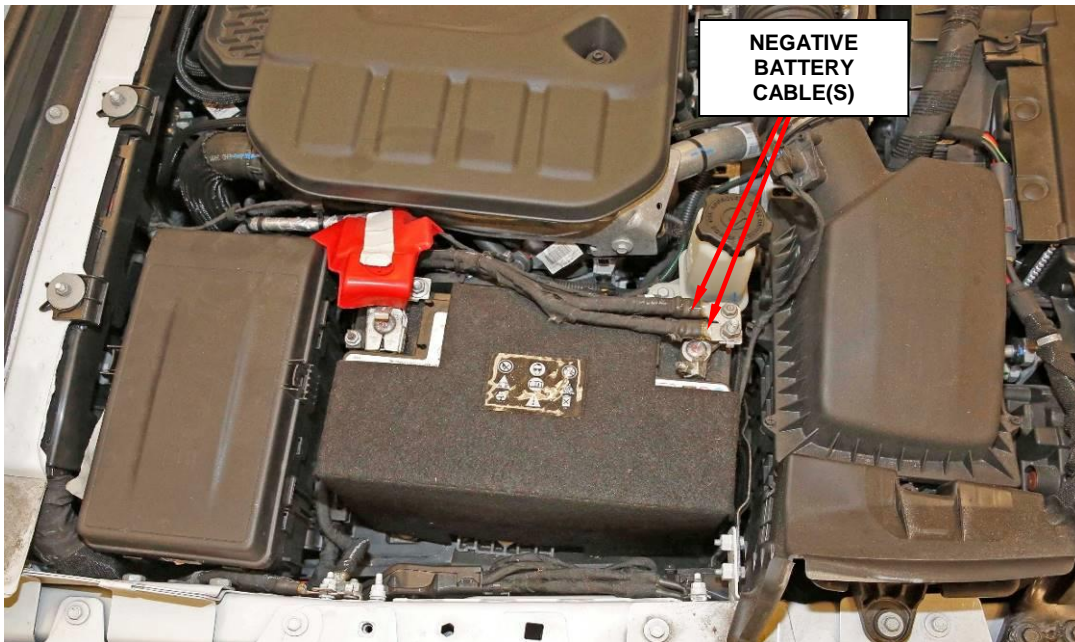

Figure 1- Battery Cable
1. Disconnect the negative battery cable, if equipped also disconnect the supplemental battery negative battery cable and the IBS electrical connector (Figure 1).
- 25. Reconnect the negative battery cable, IBS and if equipped the negative supplemental negative battery cable (Figure 1).